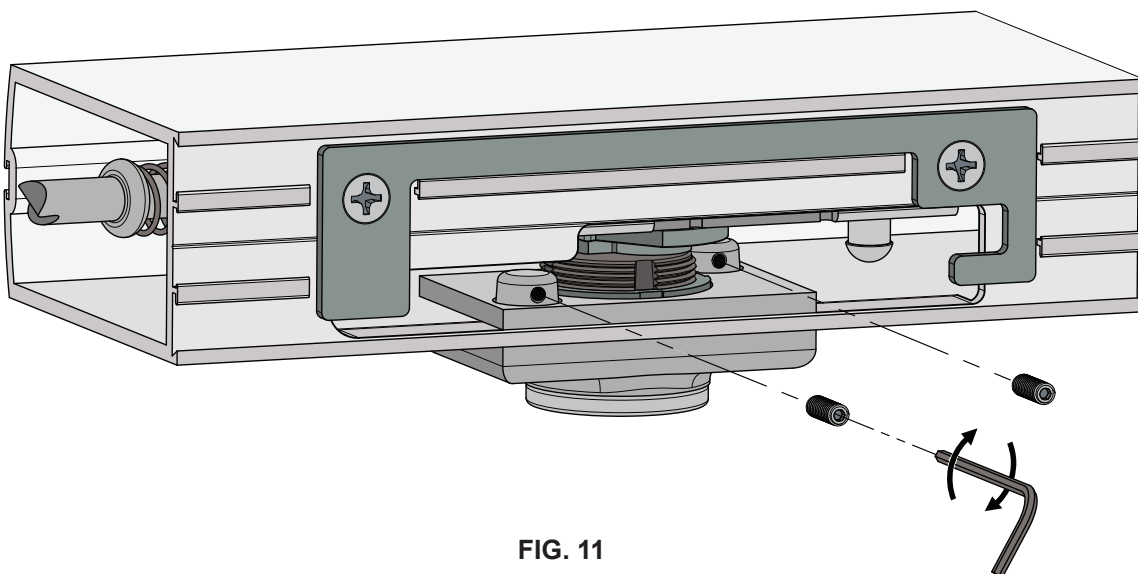

FIG. 11
2. Attach to the exterior of the Active Stile with **(D)** (2) 8-32 x 1/2" set screws. **(Fig. 11)**